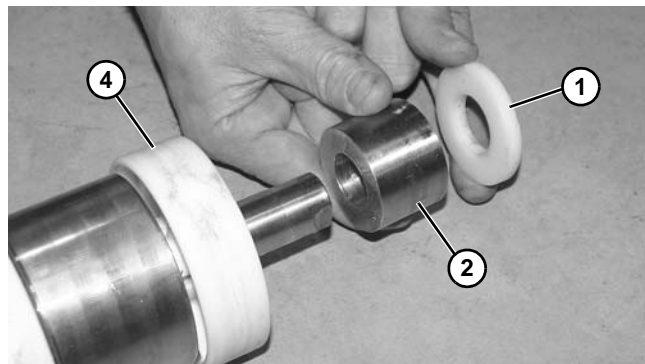

Figure 94
9. Remove bushing (**Figure 94, item 1**) and spacer (**Figure 94, item 2**) from end of take-up assembly.
10. Remove idler puck (**Figure 94, item 3**) from end of take-up assembly.